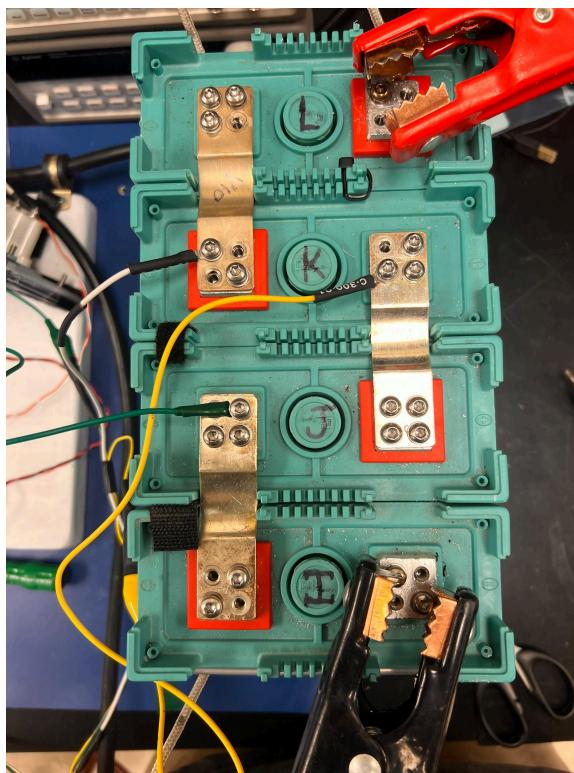

Figure 1.14: Top View of Battery After Alligator Clips and Sense Wires are Connected (JL)
Connect the battery as follows (see figure 1.14 for reference): (JL)